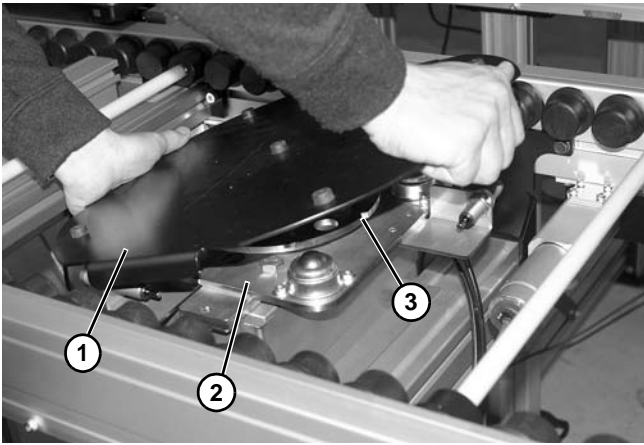
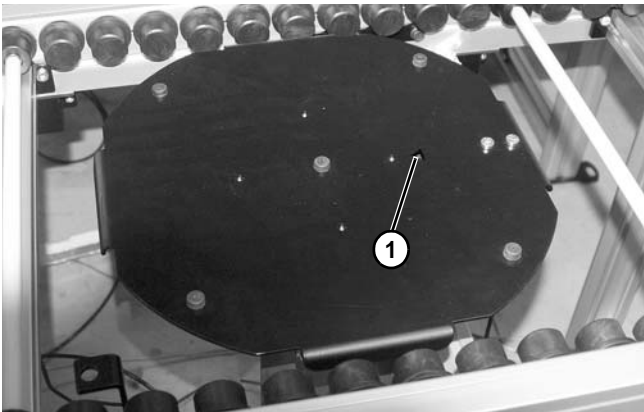

Figure 52
Figure 53
- Place lift and rotate plate (**Figure 52, item 1**) on lift and rotate assembly (**Figure 52, item 2**). Verify that arrow (**Figure 53, item 1**) on plate lines up with indented V (**Figure 52, item 3**) on rotation plate.